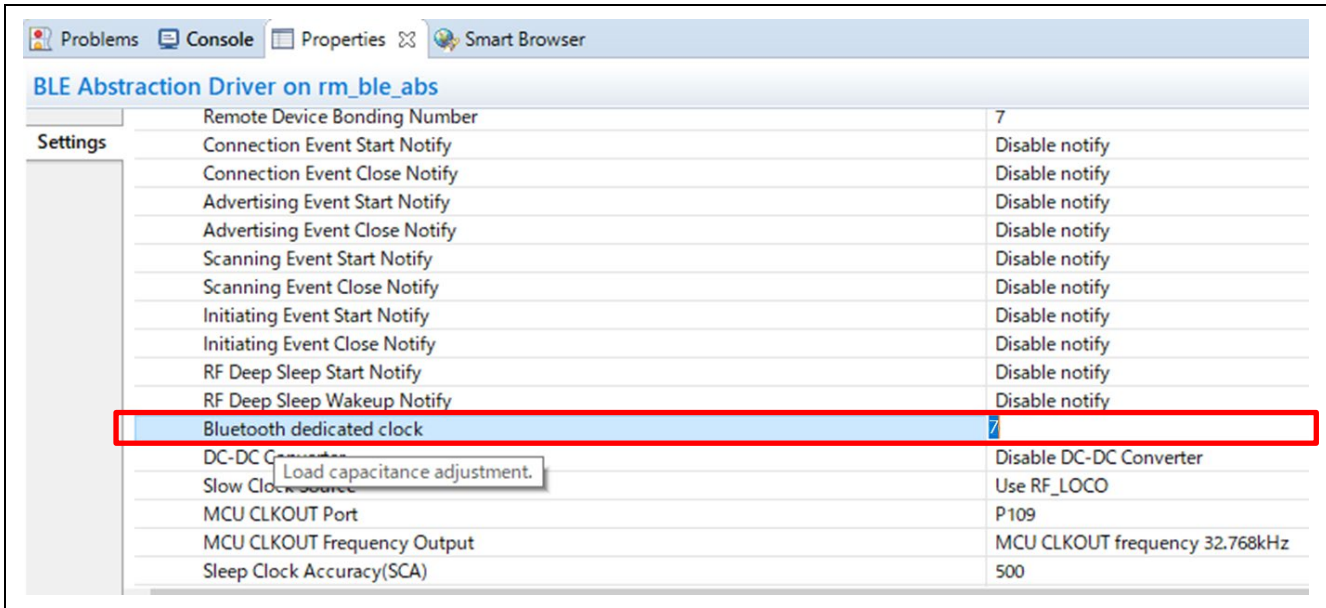

Figure 6-10. Bluetooth dedicated clock
12. Choose an “Bluetooth dedicated clock” value between 1 and 16 (Figure 6-10)